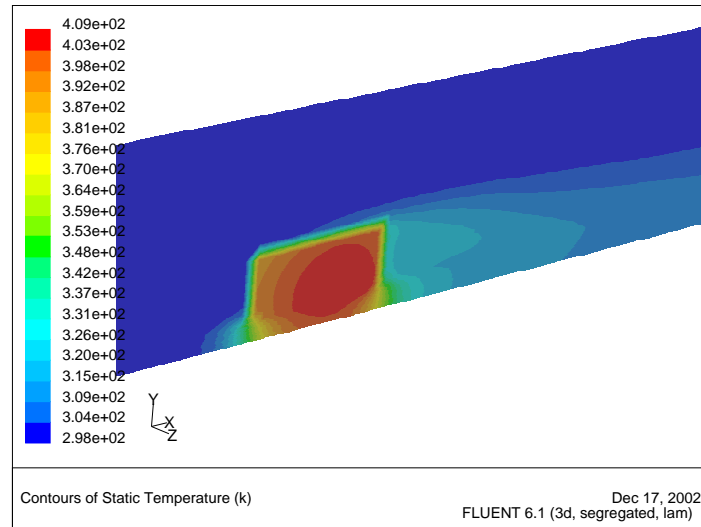

Figure 22.6: Filled Contours of Temperature on the Symmetry Surfaces
1. Plot filled contours of temperature on the symmetry plane (Figure 22.6).
- (e) Rotate and zoom the display using the left and middle mouse buttons, respectively, to obtain the view shown in Figure 22.6.